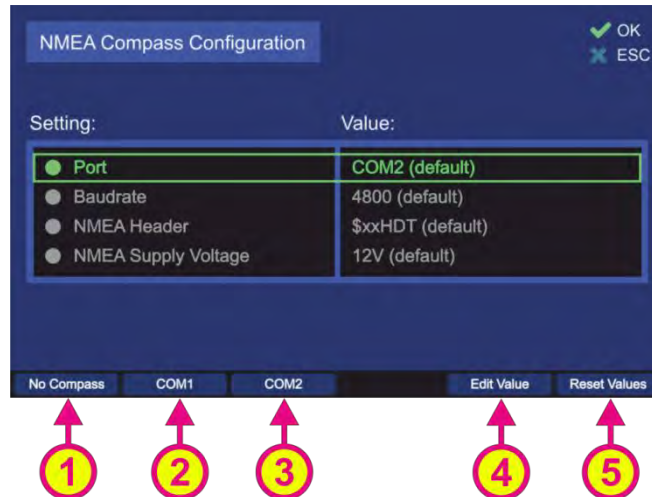
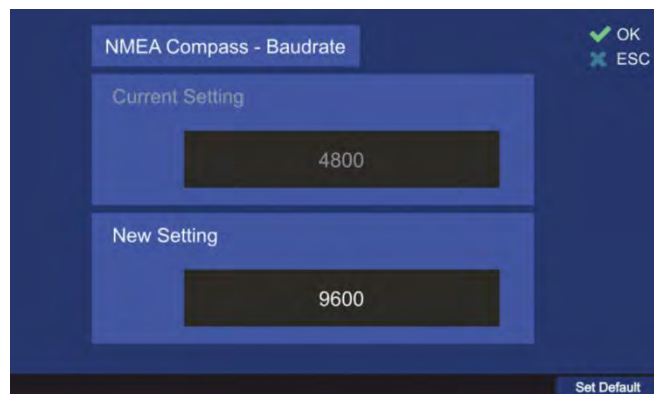
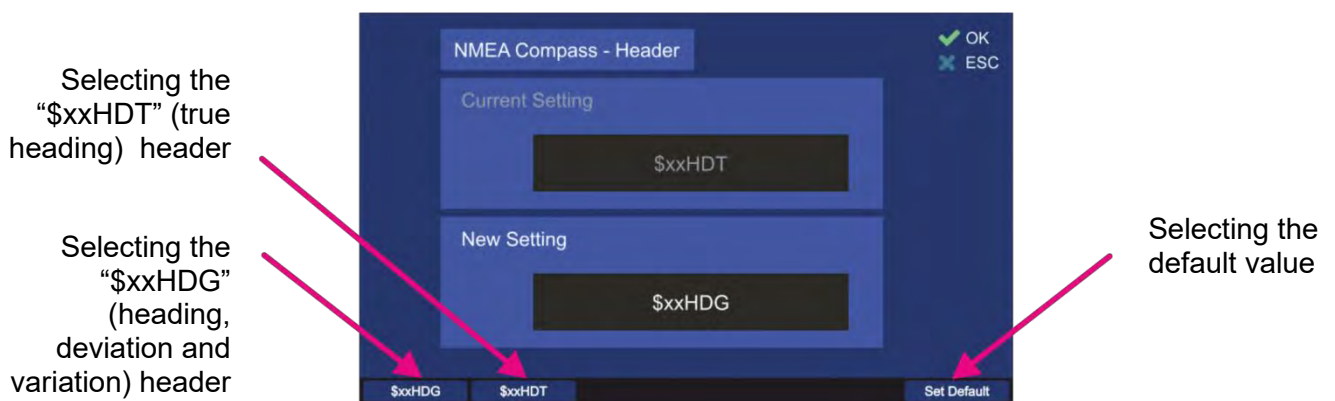

Figure 116. Compass configuration settings
Figure 118. Compass baud rate setting
Figure 119. Compass header setting
- Press the button “OK” or hotkey “Edit Value”, while the setting “NMEA Compass” is marked. Following sub-menu will appear (s. Figure 116).
Pressing the hotkey “Reset Values” (s. Figure 116, position 5) will set all menu items to default values. To go out of dialog confirming all changes, which have been made within the sub-dialogs for the single settings, press “OK”.
- The communication port can be changed by pressing one of the three hotkeys “No Compass”, “COM1” or “COM2” (s. Figure 116, positions 1, 2 or 3) or the hotkey “Edit Value” while menu item “Port” is marked (s. Figure 116, position 4).
Using the hotkeys 1, 2 or 3 on the top level dialog “NMEA Compass Configuration” (s. Figure 116), the value of the “Port” setting can be changed without opening the corresponding dialog.
- To change the baud rate, press the hotkey “Edit Value” while the menu item “Baudrate” is marked (s. Figure 116). The corresponding sub-dialog will be opened (s. Figure 118).
- In order to change the NMEA header setting, press the hotkey “Edit Value” while the menu item “NMEA Header” is marked (s. Figure 116). The corresponding sub-dialog will be opened (s. Figure 119).
- Choose the new setting using one of the hotkeys (s. Figure 119), which will then appear in the “New Setting” field.